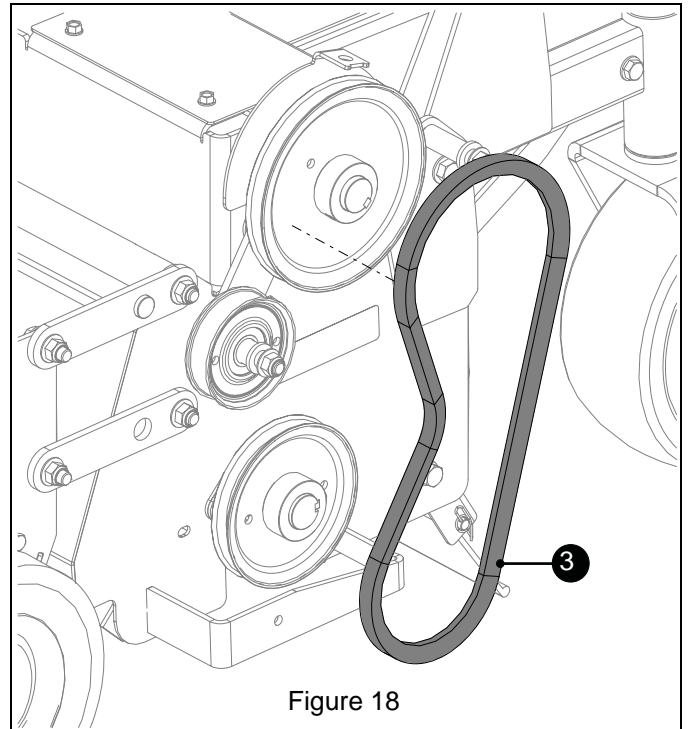

Figure 18
8. Install belt (item 3). See Figure 18.